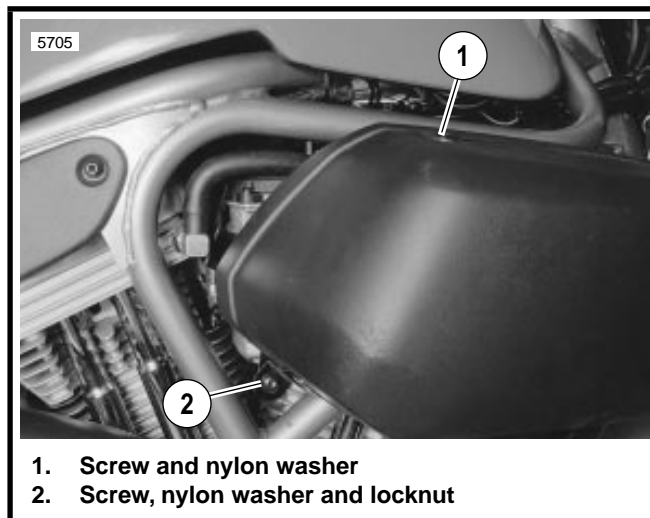

Figure 1-39. Air Cleaner Cover
1. See Figure 1-39. Remove screw and nylon washer on top of air cleaner cover.
5. See Figure 1-39. Place cover over backplate assembly. Install top screw and nylon washer.